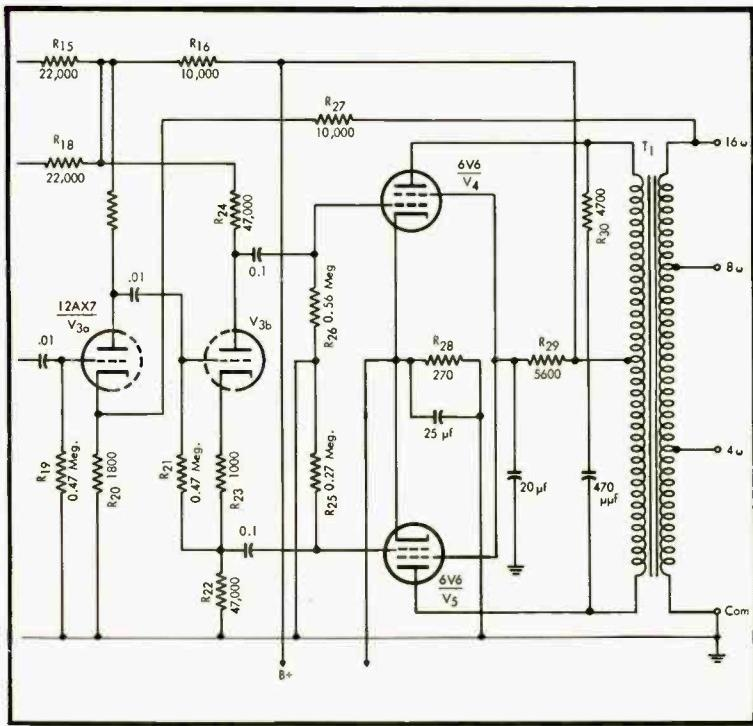

Fig. 1. Typical small power amplifier used for example worked out in the text.
The public demonstration was held on March 2. Although only a limited amount of local publicity was given to the event, over 450 people filled St. Mark's Church nearly to capacity. The equipment was essentially as described earlier, with the addition of a second Janszen 1-30 tweeter and a Fisher 50AZ amplifier (loaned by Fisher Radio Corp.) which was used to drive the Bozak speaker system. The second tweeter was placed near the great organ as shown in Fig. 1. Figure 3 shows the recorder and amplifier set-up.
The reader is probably aware that feedback is the process of applying some of the output voltage of an amplifier back to the input of an earlier stage in the circuit. This is shown in Fig. 1 which is a schematic diagram of a straight voltage amplifier V_{3A} , phase splitter V_{3B} , and push-pull output stage V_4 , V_5 . This circuit arrangement is given because it is found in a number of hi-fi amplifiers and will be familiar to many readers.
Actual measurements made on the portion of the amplifier as shown in Fig. 1 are as follows: with the feedback resistor R_{27} disconnected from the output winding of the transformer and a 1000- μ sec signal from an audio oscillator applied between the grid of V_{3A} and ground, a 0.23-volt signal from the oscillator fed to the input gave a 9-volt signal across the output transformer. See simplified schematic of (A) in Fig. 3. A 9-volt signal across the 16-ohm output winding is approximately 5 watts output.¹ Therefore, the voltage gain without feedback is equal to the output voltage, 9, divided by the input voltage, 0.23, or 39.